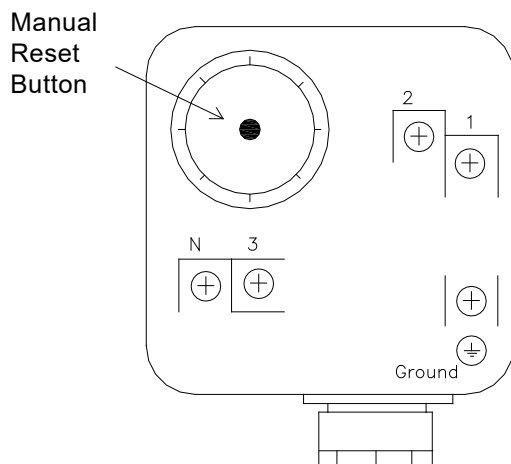

Figure 18: High/Low Gas Pressure Switch
12. If the high or low gas pressure switch tripped, it must be manually reset before the appliance can be restarted. (See Figure 18)